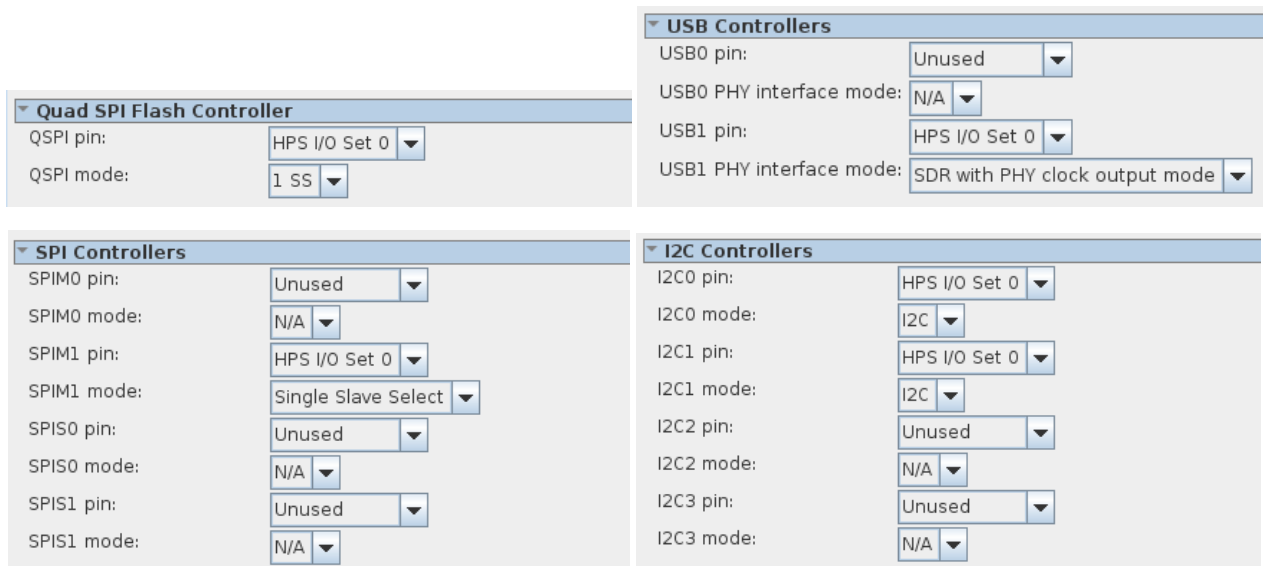

Figure 9-12. Quad SPI Flash, USB, SPI, and I2C peripheral pin configurations
- a. Configure the Quad SPI Flash controller, USB controllers, SPI controllers, and the I2C controllers as shown in Figure 9-12.